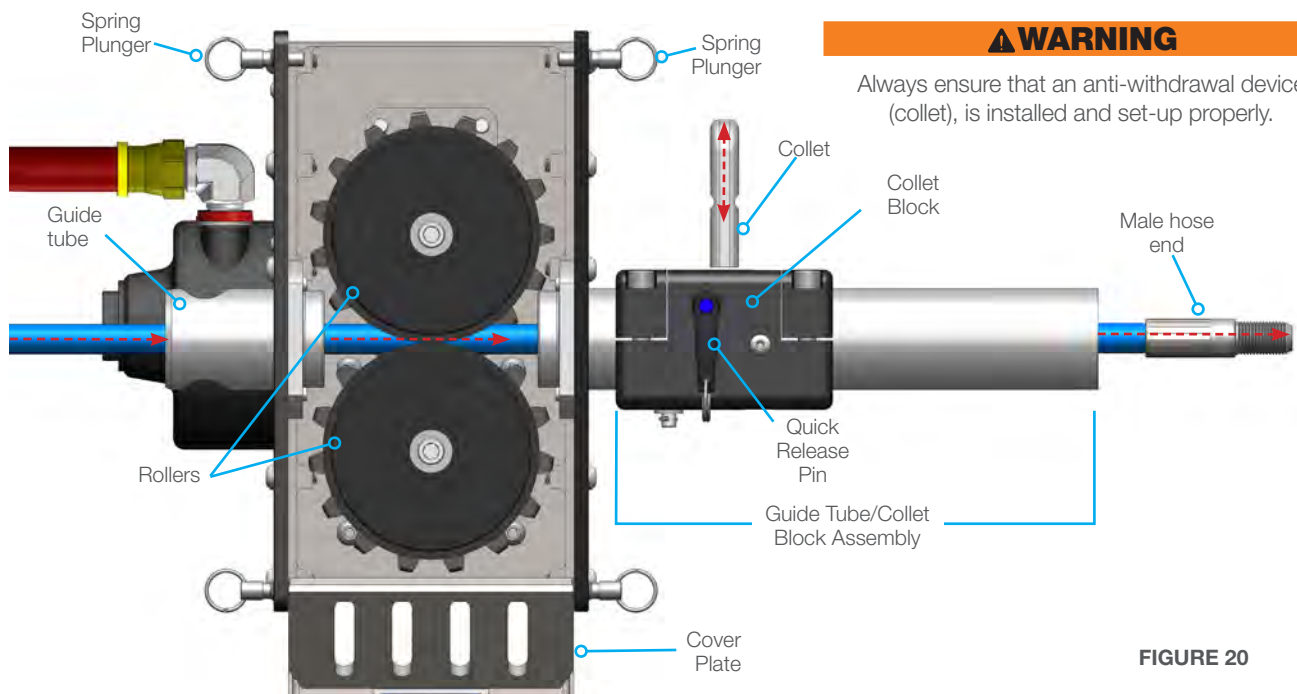

FIGURE 20
30. Pulling out the Spring Plungers will release the Cover Plate on the Tractor and allow access to the rollers. **(Figure 20)**
31. Pull out the Quick Release Pin on the Collet Block and remove the Collet. Feed the male hose end into the Guide Tube, through the Rollers and out the end of the Guide Tube/Collet Block Assembly. **(Figure 20)** Refer to the “Part Diagram” section of this manual for Collet sizes for high pressure hose diameter. Roller options can be found in the *ABX-PRO-100 User Manual* that is included with the ABX-PRO Tractor.